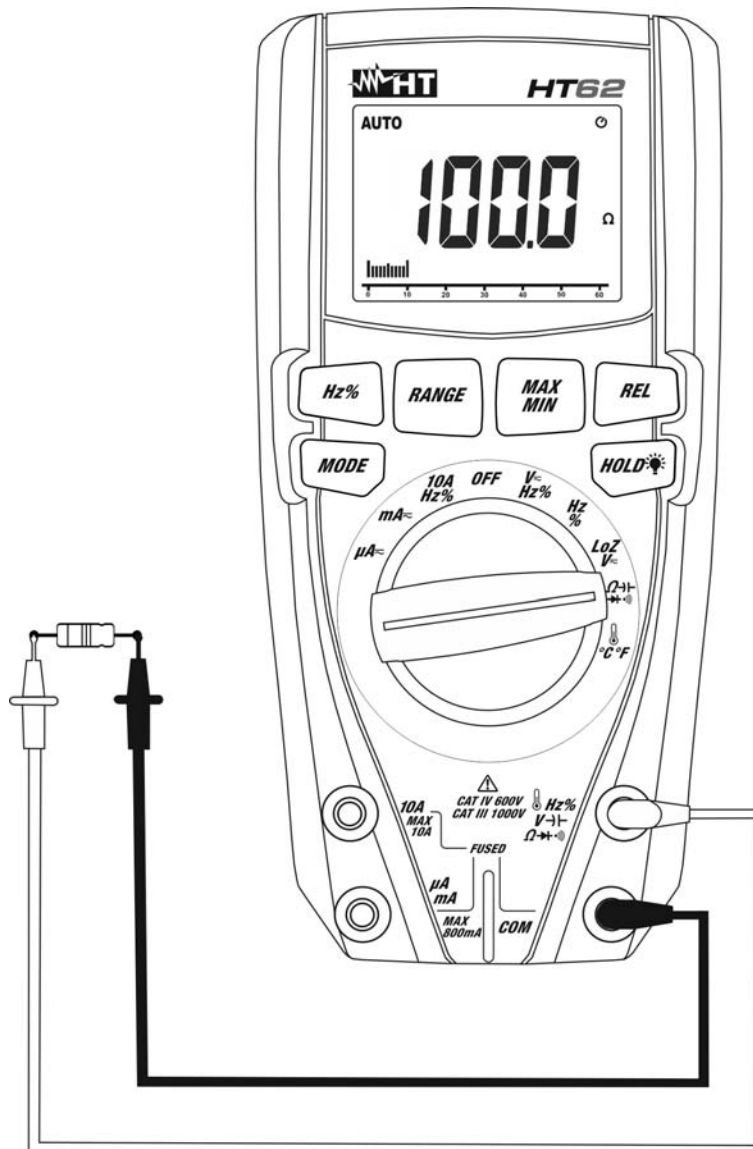

Fig. 6: Use of the instrument for resistance measurement and continuity test
3. Position the test leads in the desired spots of the circuit to be measured (see Fig. 6). The display shows the value of resistance.